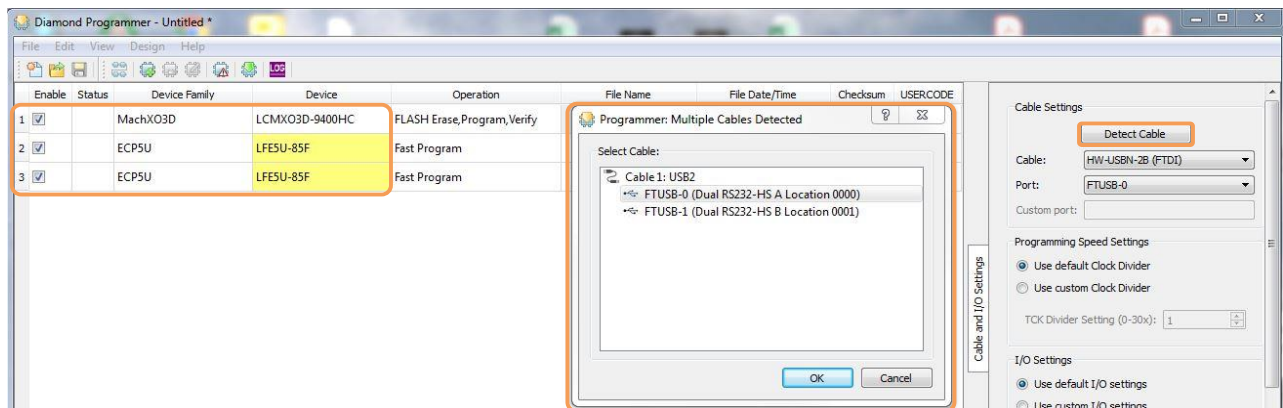

Figure 4.6. Diamond Programmer JTAG Chain
3. Click the **Detect Cable** button to scan the cable (Figure 4.6). The **Programmer: Multiple Cables Detected** dialog box pops up.
5. After scanning the cable, click the  button to scan the JTAG chain. The three main devices are located as shown in Figure 4.6.